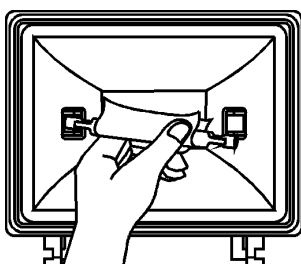

FIGURE 6
- (6) Unwrap the halogen lamp, taking care that the fingers do not touch the glass. Push one end into either of the spring loaded sockets. Locate other end on other socket and release.(FIGURE 6)